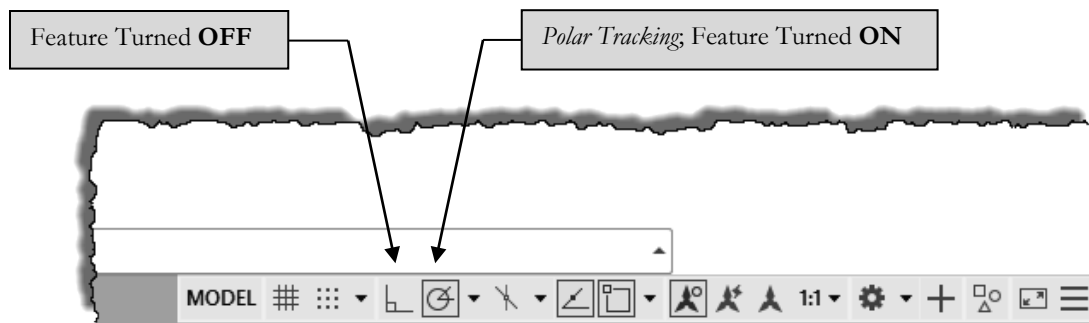

FIGURE 2-1.9 Status Bar – shown with Polar Tracking turned on.
12. On the *Status Bar*, make sure **Polar Tracking** is turned on (Figure 2-1.9). *It should have a bluish highlight when turned on.*